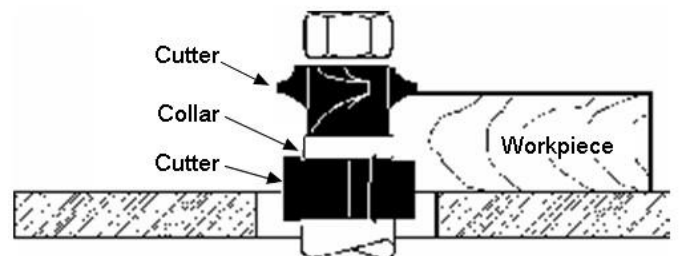

Fig. 39
3. Using the collar between the two cutters has the advantages and disadvantages of the first two procedures, and is frequently used where both edges of the work are to be molded, Fig. 39.